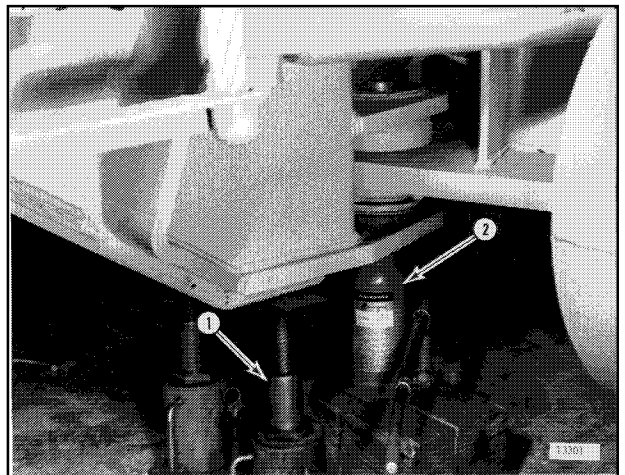

Figure 15
22. Place suitable ten ton jacks (1, Figure 15) under front module for support.
23. Using another hydraulic jack (2, Figure 15), remove bottom hinge pin.